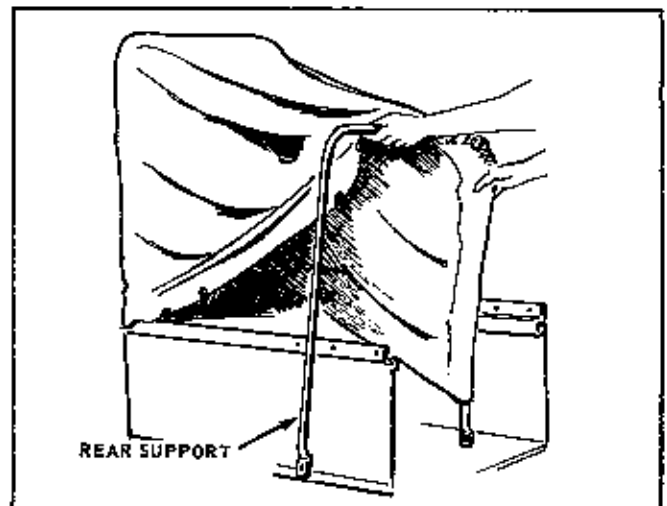

FIGURE 3
B. Thread the canvas enclosure over the rear support assembly as shown in Figure 3, and place the other end of the canvas over the front support assembly as illustrated.